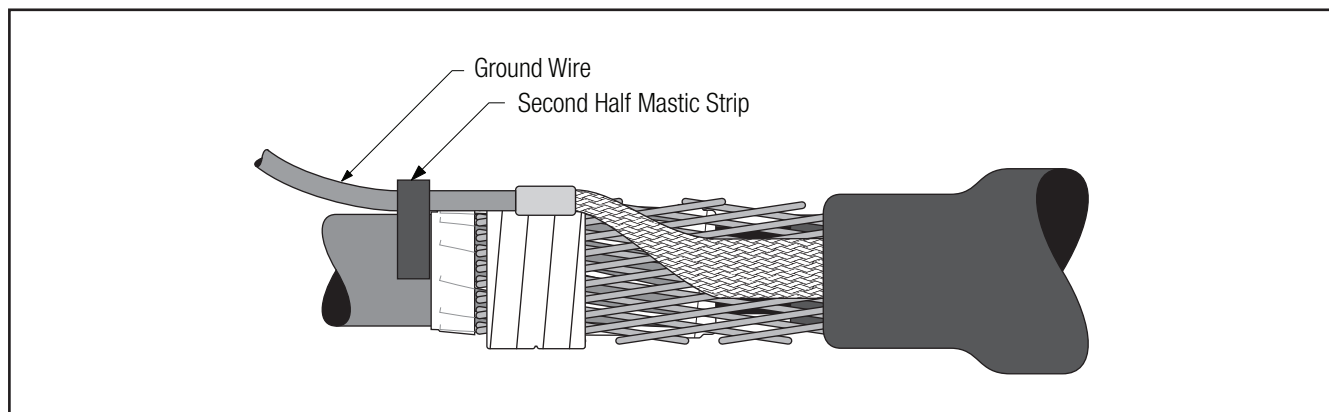

Figure 24
- 6.3 Place the other half mastic strip over the previously applied mastic and ground wire. Press the mastic around the ground wire and to the cable jacket (*Figure 24*).